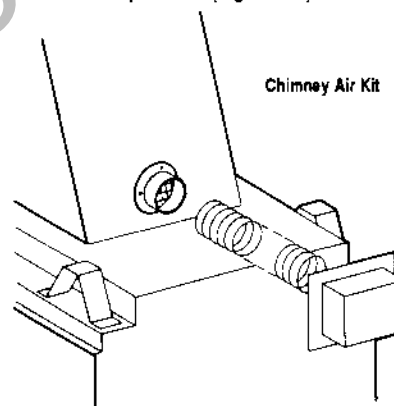

Figure 11
Step 5. Remove one of the knockouts from the transition and attach the 4" (102mm) collar from the CAK-4 air kit to the transition, using the four (4) No. 8 x 1/2" screws provided (Figure 11).